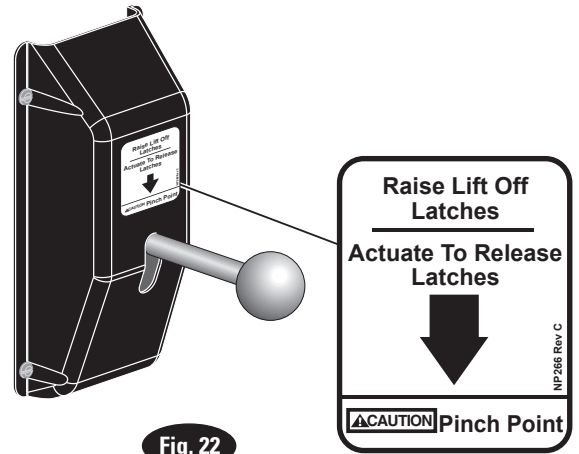

Fig. 22
- 23. **Latch Release Decal:** Install latch release decal on cover above latch release handle, Fig. 22.